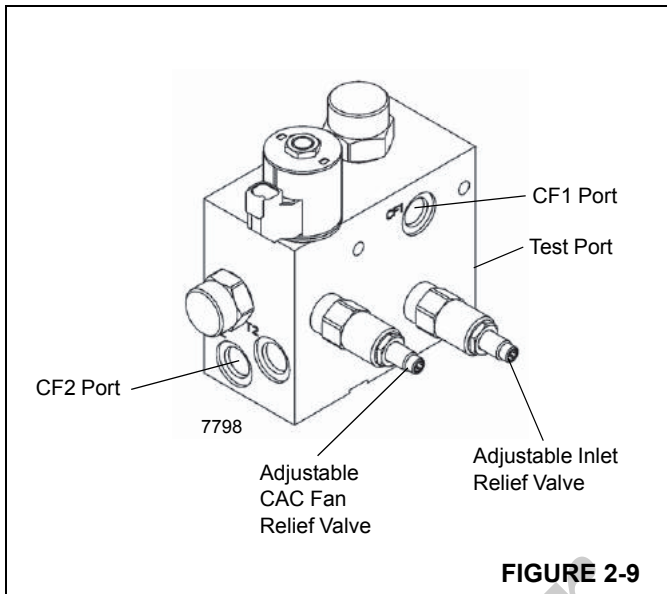

FIGURE 2-9
1. With engine off, disconnect hose at port "CF1" at the brake charge/CAC fan motor supply valve Figure 2-9; cap and plug all openings.
1. With engine off, disconnect hose at port "CF2" at the brake charge/CAC fan motor supply valve Figure 2-9; cap and plug all openings.